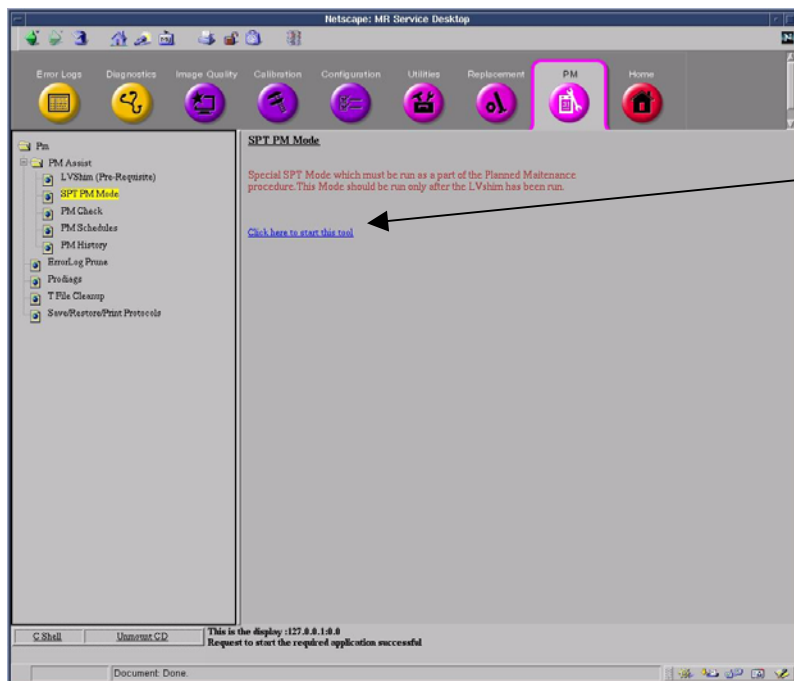

Figure 26a
1. From the Common Service Desktop PM page, click on "SPT PM Mode" in the expanded PM folder on the left side of the page. See Figure 26a and 26b.
2. To start the SPT tool, click on the link: "Click here to start this tool" shown in Figure 26a.